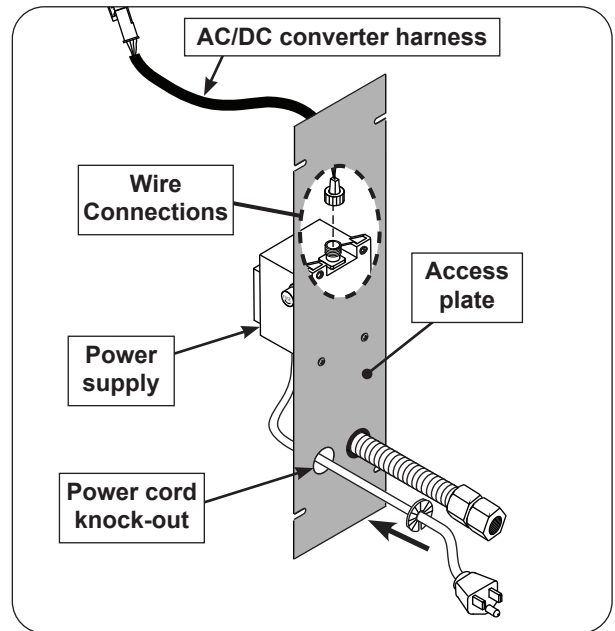

Fig. 28-1 Access plate view & orientation
A power supply is pre-mounted to the access plate. For ease of installation, disconnect the converter harness from the power supply. Locate the wires coming from the inside of the post to the power supply and carefully disconnect (see Fig. 28-1 and 28-2).
4. Install the bushing onto the power cord and slide the bushing up against the access plate knock-out hole and snap into place. See Fig. 28-1.